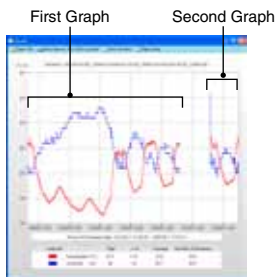
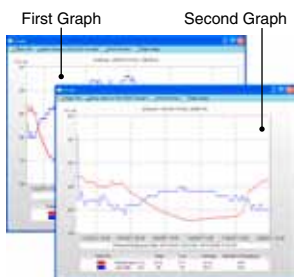

Figure 1
Figure 2
- 7.** When you select to add the selected data file into the currently displayed graph, it will be combined with the most recently opened graph as Figure 1. When you select separating the graph, the selected data file will be displayed in the separate graph window as Figure 2.